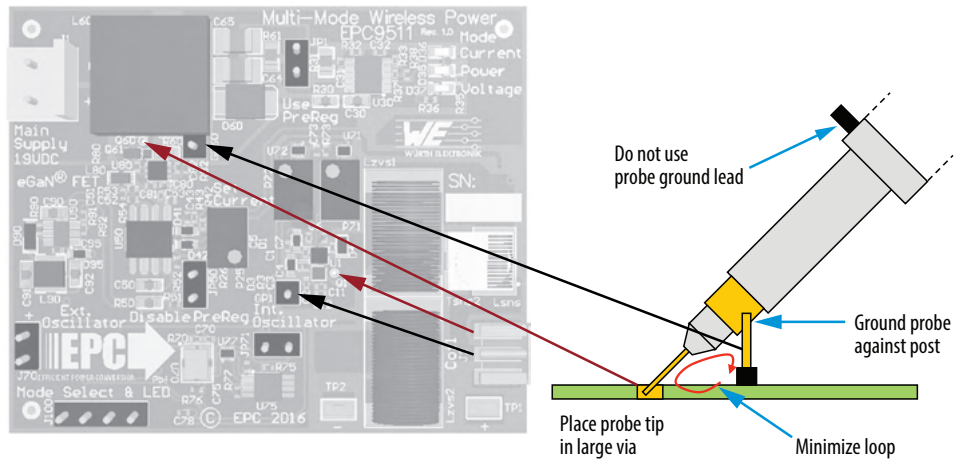

Figure 7: Proper measurement of switch Node waveforms.
3. Connect a LOW capacitance oscilloscope probe to the probe-hole of the half-bridge to be set and lean against the ground post as shown in figure 7.
1. When measuring the high frequency content switch-node (Source Coil Voltage), care must be taken to avoid long ground leads. An oscilloscope probe connection (preferred method) has been built into the board to simplify the measurement of the Source Coil Voltage (shown in Figure 7).